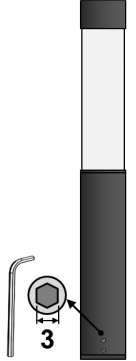

Fig.7
- Fix the bollard by six hex bolt by 3mm spanner onto the [FLANGE]. (Fig.7)